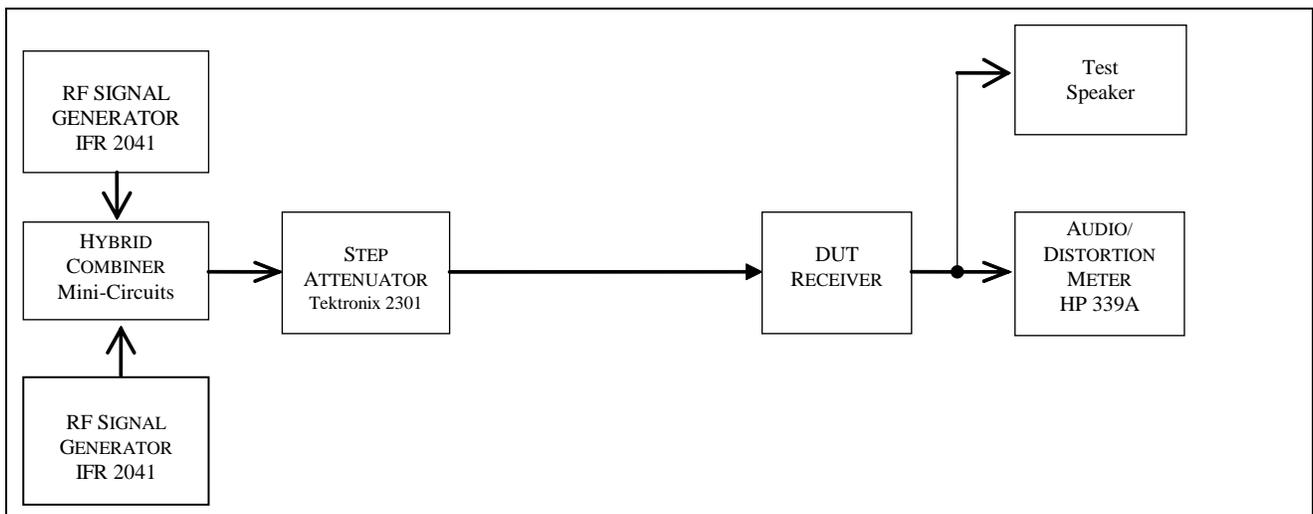

Fig. 5-10 — FM Two-Tone, 3rd Order Dynamic Range Test Hook-up
5.10.2 Test hook-up (See Fig. 5-10)